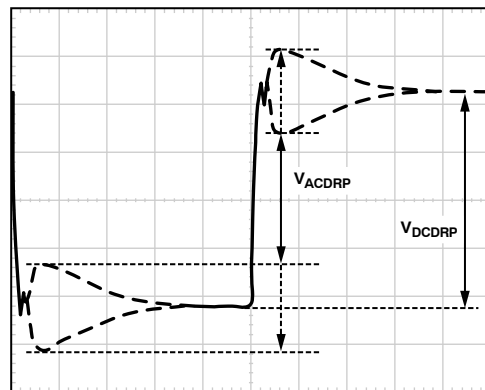

Figure 38. AC Load Line Waveform
5. The resulting waveform will be similar to that shown in Figure 38. Use the horizontal cursors to measure  $V_{ACDRP}$  and  $V_{DCDRP}$ , as shown in Figure 38. Do not measure the undershoot or overshoot that occurs immediately after the step.